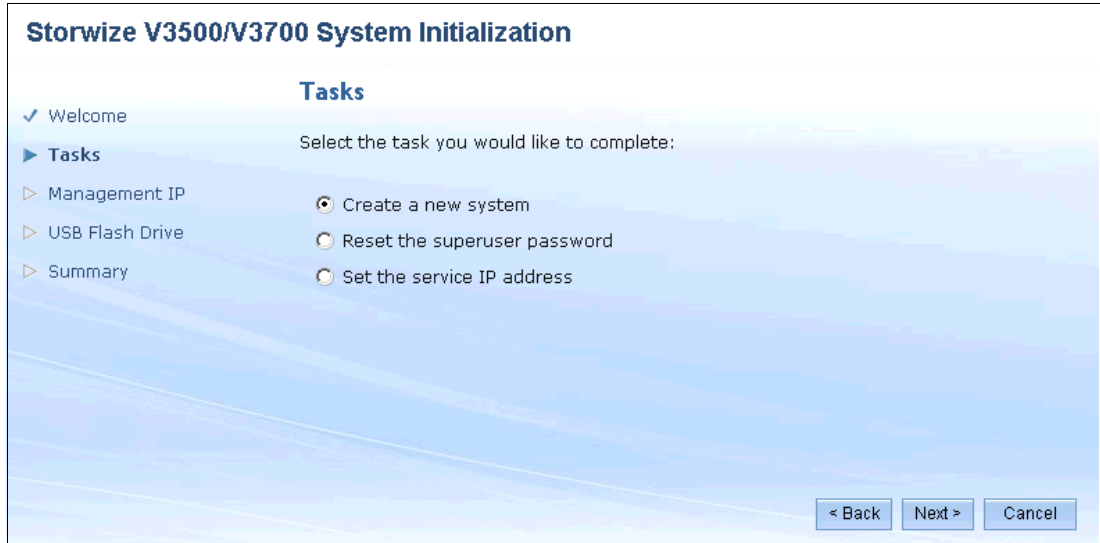

Figure 2-10 System Initialization: Create a new system
2. Select **Create a new system**, as shown in Figure 2-10.
There are other options available through the Tasks section. However, these are generally only required after initial configuration. There is the option to **Reset the superuser password** or **Set the service IP address** of a node canister. Selecting **Create a new system** and clicking **Next** (as shown in Figure 2-10) progresses through the initial configuration of the IBM Storwize V3700.